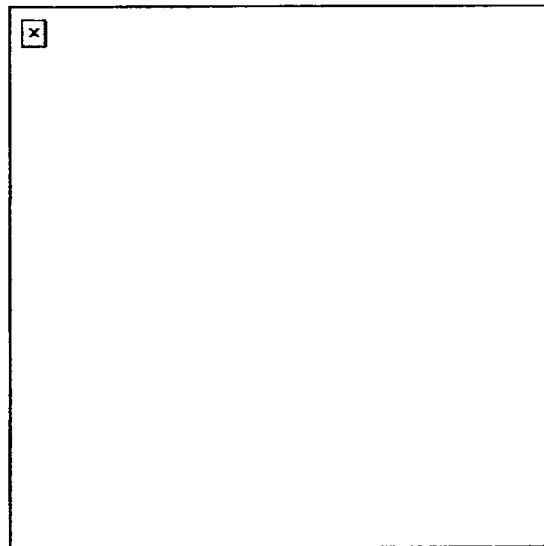

Figure 3. Contact left.
- (2) Drill signals (Figures 3 through 9). Drills are a rapid, reflexive response executed by a small unit. These signals are used to initiate drills. They are used mounted or dismounted.